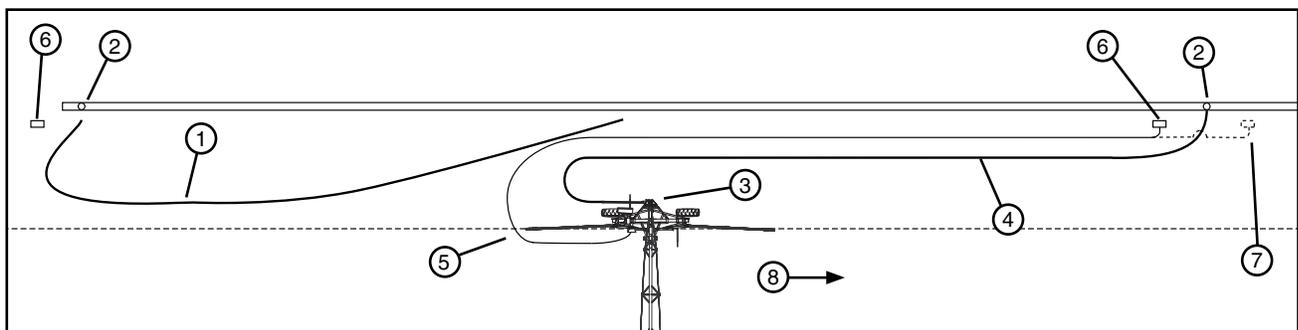

Figure 55-2 1. First Hose 3. Swivel Inlet 5. Electric Cord 7. Alternate Power Pedestal Location and Electric Cord Position
7. Disconnect the first hose from the shut off valve so that water from the hose drains away from the cart path. Then unlatch and disconnect first hose from swivel inlet. See Figure 55-2.
8. With second hose connected to shut off valve, position second hose, connect to swivel inlet and latch in place. Reposition the end of field/hose stop for the length of the second hose being used. See Figure 55-2.
- (c) Position the electric cord far enough away from the hose, so that the hose will not drag over it. When applicable, prevent interference between the electric cord and hose by positioning the electric cord over the top of hose. See Figure 55-2.